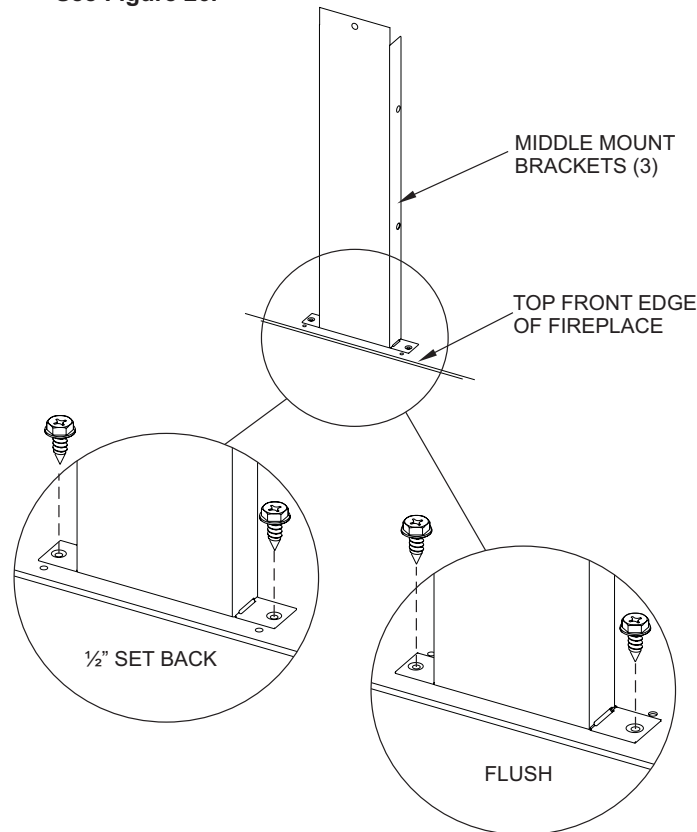

Figure 26
- Attach three middle mount framing brackets to the top front edge of the fireplace. These brackets support the supplied non-combustible board above the fireplace. Preset depth to suit facing material (flush or 1/2in set back depths). See Figure 26.